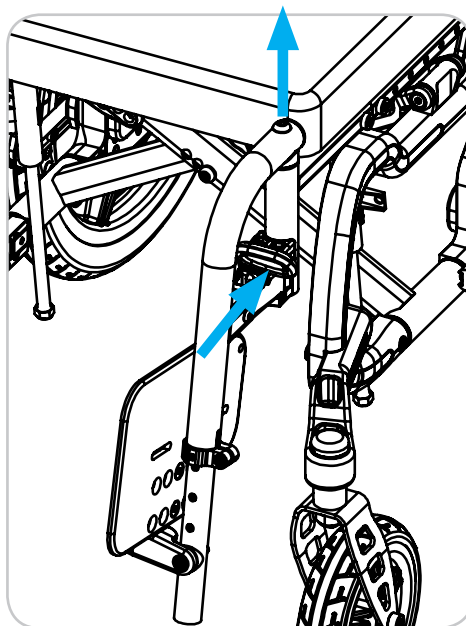

Figure 25
4. Pull up the front rigging and remove. Reference Figure 25.